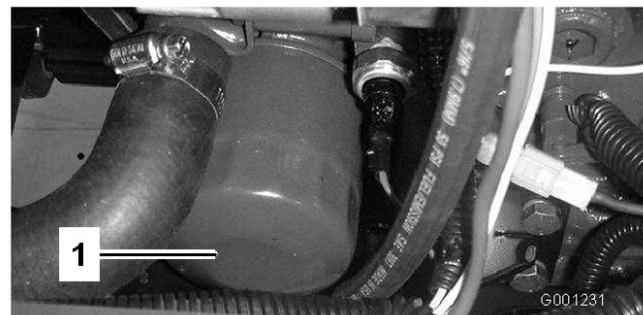

Figure 49
6. Remove and replace the oil filter (Figure 49).